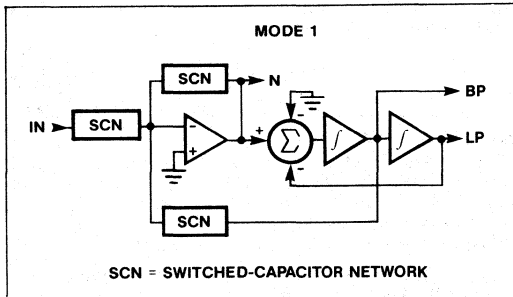

Figure 4. Filter Mode 1: Second-Order Bandpass, Lowpass and Notch
Figures 4 through 8 show symbolic representations of the MAX263/64 filter modes. Only one second-order section is shown in each case, however the  $f_0$ , Q, and Mode select inputs are common to both halves of the IC. The  $f_0$ ,  $f_N$  (notch), Q, and various output gains for each mode are shown in Table 4.
**MODE 1** (Figure 4) is useful when implementing all-pole lowpass and bandpass filters such as Butterworth, Chebyshev, Bessel, etc.. It can also be used for notch filters, but only second-order notches because the relative pole and zero locations are fixed. Higher order notch filters require more latitude in  $f_0$  and  $f_N$ , which is why they are more easily implemented with Mode 3A.
Mode 1, along with Mode 4, supports the highest clock frequencies (see Table 1) because the input summing amplifier is outside the filter's resonant loop (Figure 4). The gain of the lowpass and notch outputs is 1, while the bandpass gain at the center frequency is  $Q$ . For bandpass gains other than  $Q$ , the filter input or output can be scaled by a resistive divider or op amp. In multiple feedback filters, the gain is set by the feedback resistors.